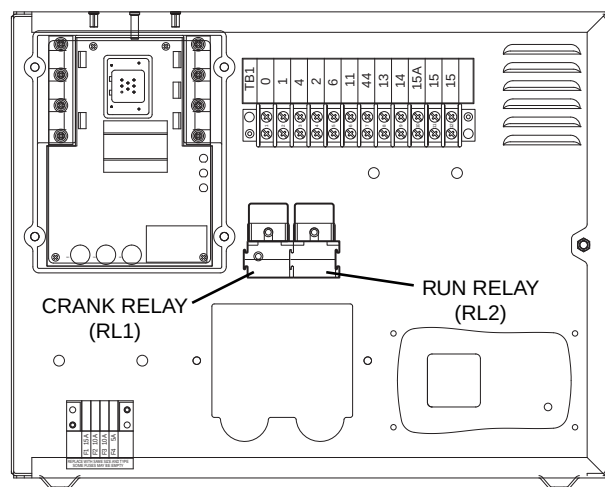

Figure 4. RL1 and RL2 Location
1. Locate the Engine Start Relay (RL1 BLACK), it is located in the back of the control panel in the center (see Figure 4).